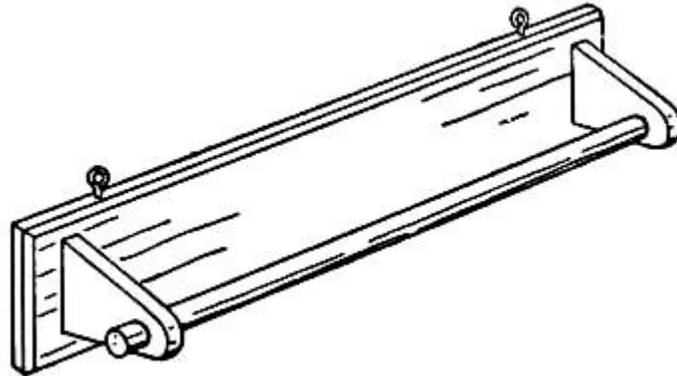

FIG. 62.—A Towel-rack.
**A Towel-rack**, such as is shown in Fig. 62, is made in four pieces, —a board about eighteen inches long for the back, two arms six inches long, and a piece of broom-handle eighteen inches long. After cutting out the arms the shape shown in Fig. 63, bore a hole large enough for a broom-handle to fit in each. Bevel the edges of the eighteen-inch board, and then nail it to the arms, driving the nails through this piece into the arms. Fit the piece of broom-handle into the holes bored for them, and trim off the ends so that about one inch projects beyond the face of each arm.